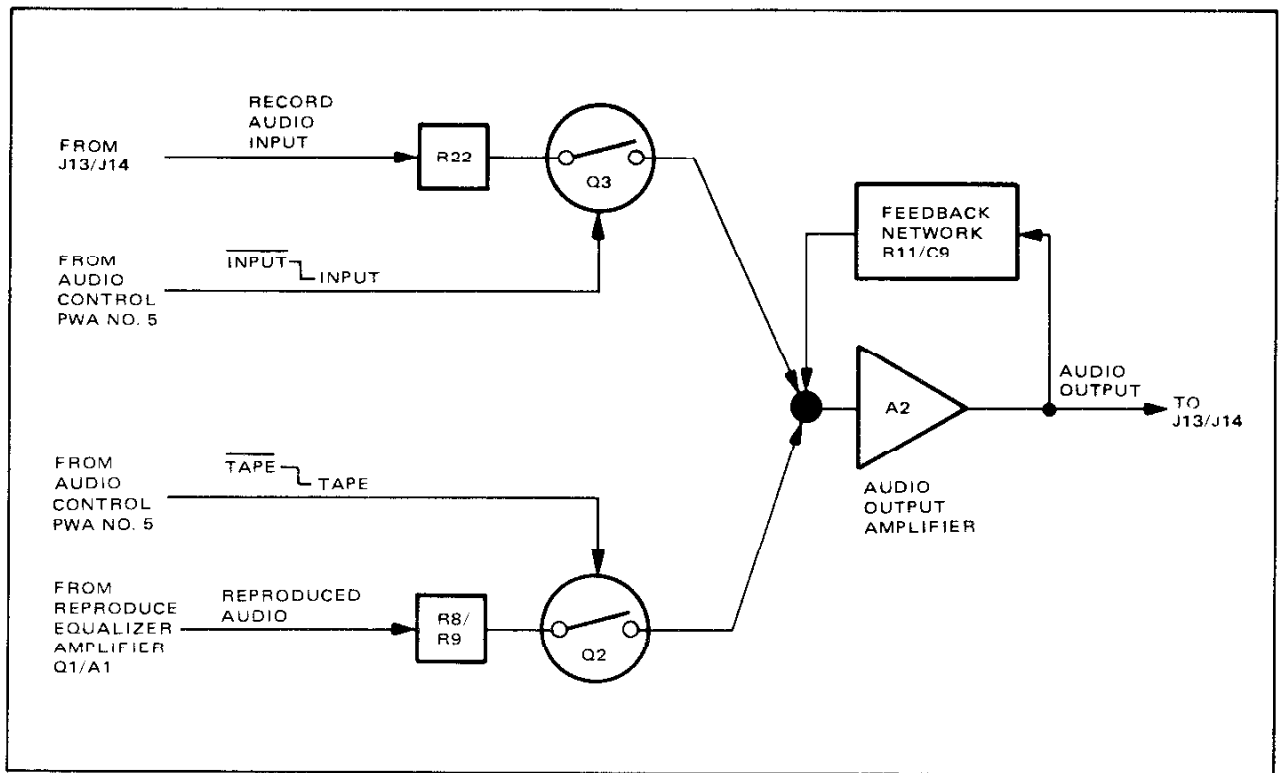

Figure 4-23. Audio Output Circuit, Simplified Block Diagram
**4-77. Audio Output Circuit.** The audio output circuit consists of FET switches Q3 and Q2, audio output amplifier A2, and feedback network R11/C9. Figure 4-23 is a simplified block diagram of the audio output circuit. FET switches Q3 and Q2 provide selection of either tape or input signals to be buffered by audio output buffer A2 under control of the  $\overline{\text{TAPE}}/\text{TAPE}$  and  $\overline{\text{INPUT}}/\text{INPUT}$  command signals from the audio control PWA No. 5. FET switch Q2 selects the off-tape signal from the reproduce equalizer amplifier when the  $\overline{\text{TAPE}}/\text{TAPE}$  command goes low. For monitoring, FET switch Q3 selects the audio input signal to the record circuits when the  $\overline{\text{INPUT}}/\text{INPUT}$  signal goes low. FET switches Q2 and Q3 will never both be turned on at the same time; however, both switches may be turned off simultaneously. Diode CR1 at the input to FET switch Q2 provides limiting, when Q2 is turned off, of positive signal peaks to ensure that FET switch Q2 is not turned on by the signal peaks. When FET switch Q2 is turned on by the  $\overline{\text{TAPE}}/\text{TAPE}$  signal, diode CR1 will not be forward biased because diode CR1 is essentially at the virtual ground of the summing junction. In a similar manner, diodes CR2 and CR20 at the input of FET switch Q3 provide a symmetrical clamp for the audio input to the switch which prevents the audio peaks from turning on FET switch Q3.